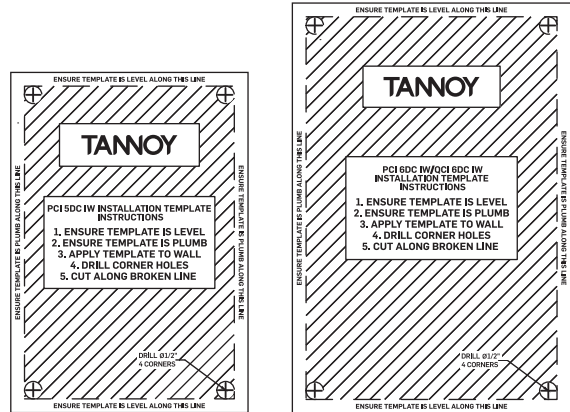

Fig. 1. Cutout Templates
2. Use the supplied cutout templates (Fig. 1) in the desired location and carefully cut out a hole in the drywall using a suitable handtool. Remove any dust and debris from the hole (Fig. 2).